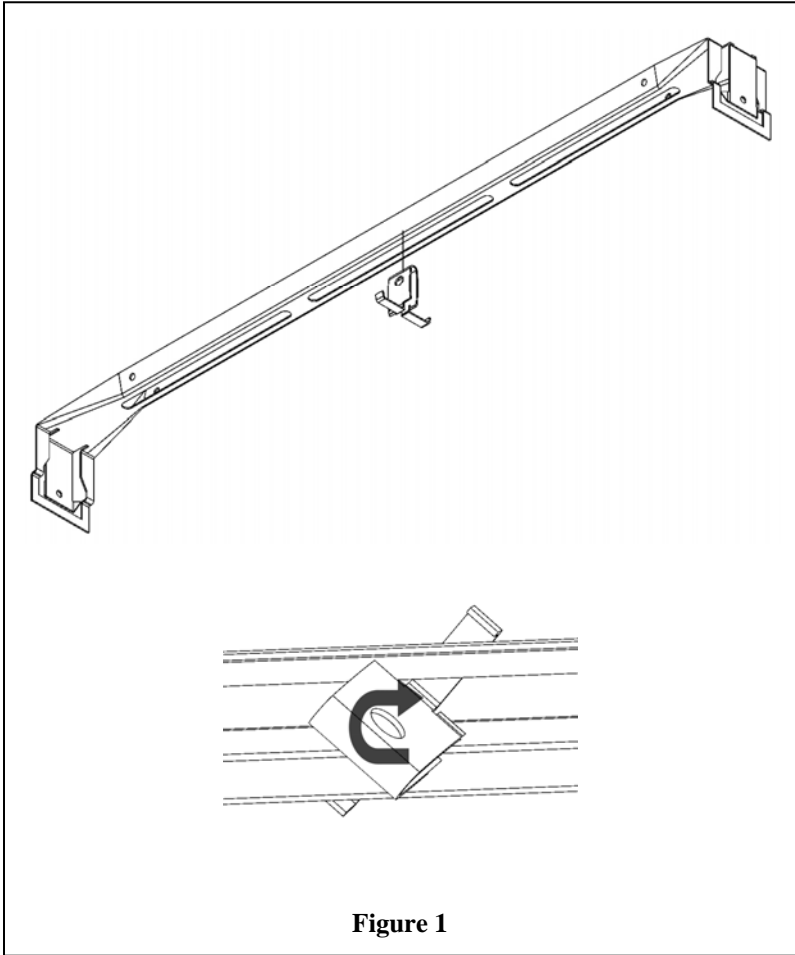

Figure 1
Step 1 – Place the components on the work surface and attach the wire rope clip to the tile span. Use a pair of pliers to pinch and squeeze the wire rope clip between the tile span (Figure 1). Turn clockwise to snap the wire rope clip in place.